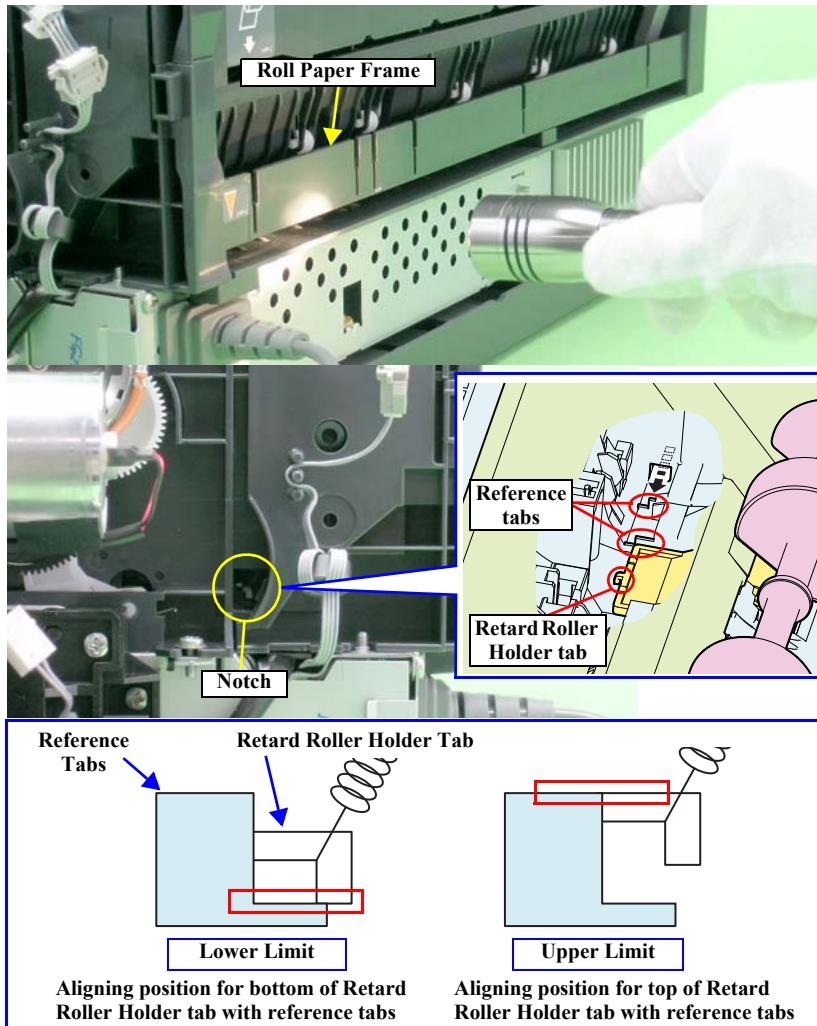

Figure 4-28. Aligning the Position of the Guide Roller LD (0 Digit Side)
3. Light the printer's inside through a gap between the Roll Paper Frame and the ASF Assy with a penlight, and look the tab on the Retard Roller Holder at the back of the two reference tabs on the ASF Assy through the notch. After making sure that the two reference tabs are aligned when viewed edge-on, adjust the position of the Retard Roller Holder Tab by pressing the Guide Roller LD (0 digit side) so that it is placed within the range as shown in the simplified diagram in Figure 4-28.